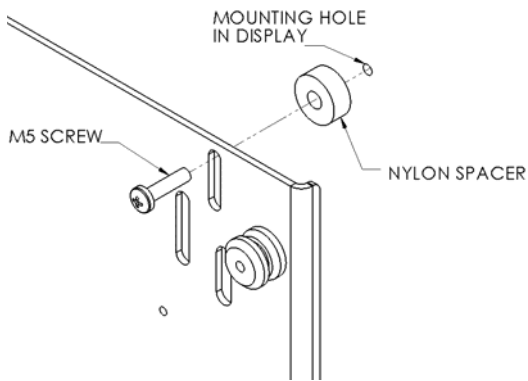
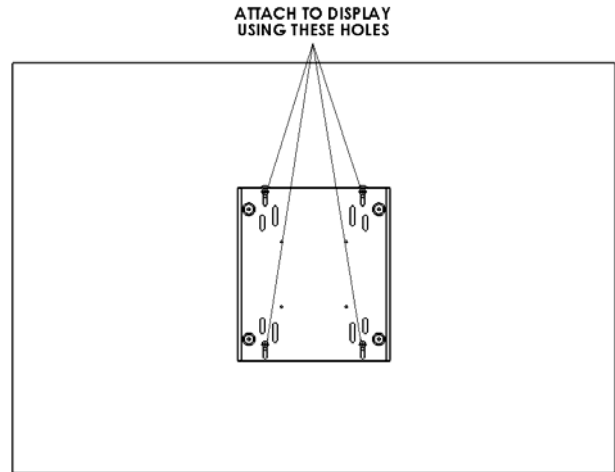

Figure 4
Figure 5
- Bracket Installation:** Attach bracket to back of display using the M5 screws and nylon spacers (see Figure 4 & Figure 5). The vertical slots of bracket can be used for any height adjustment that may be needed.